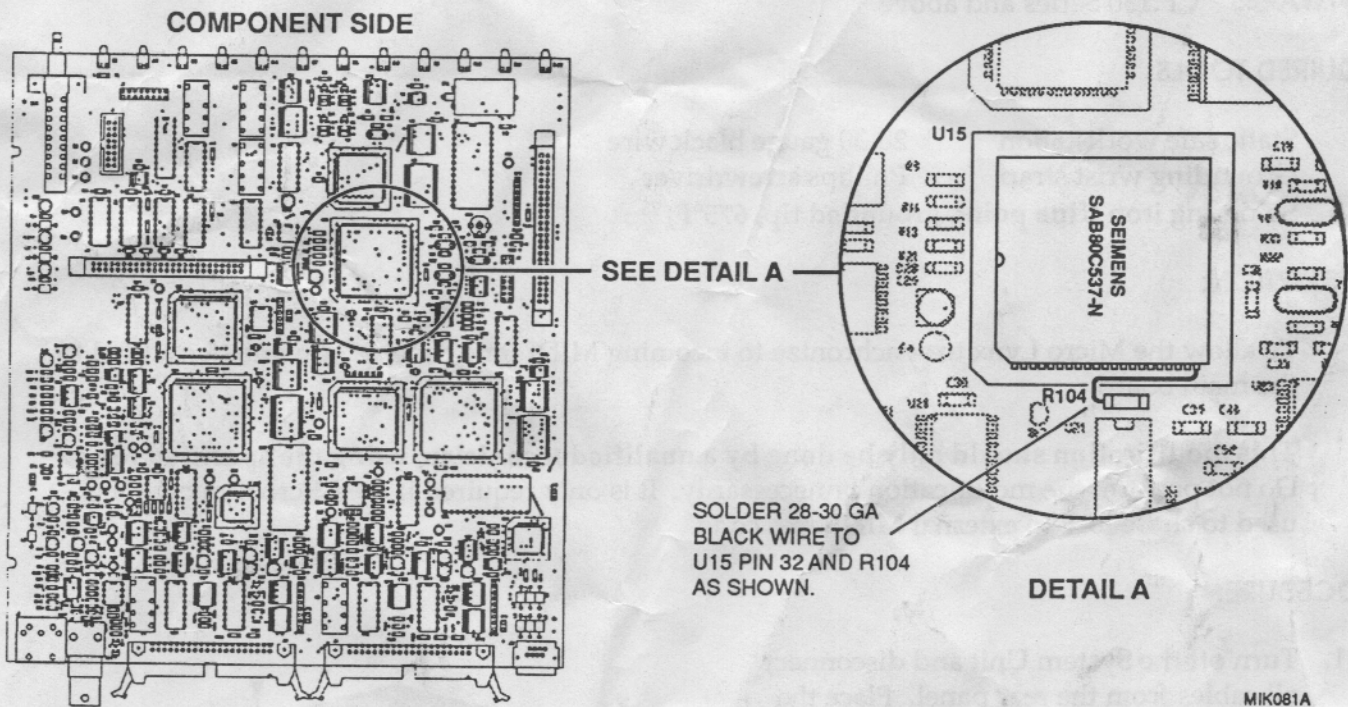

Figure 2. Component Location
4. Locate components U15 and R104. (See Figure 2)
5. Using a fine point soldering iron at 675°F temperature, solder a 28-30 gauge black wire from U15 Pin 32 (the corner pin) to R104. (See Figure 2, Detail A)